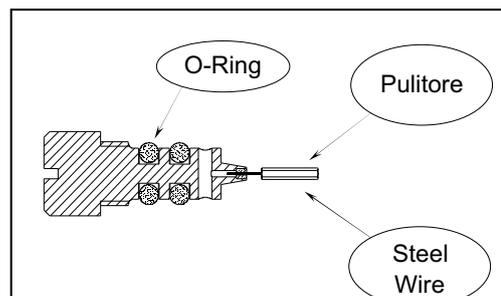

Fig. 14.1.2
Remove the screw (13) Fig. 14.1.1 and clean, as in Fig.14.1.2, with the appropriate cleaner placed on the cover inside the instrument. In the case where the choke is particularly obstructed, the cleaning operation can be integrated by a bath in trichloroethylene and a successive blowing with compressed air. Before reassembling the screw (13) lubricate the O-Ring with a silicone grease.
Remove the screw (13) (see Fig. 14.1.1) and clean, as shown in Fig. 14.1.2, by means of the supplied steel wire situated inside the instrument. If the capillary orifice is obstructed, clean it with a bath in trichloroethylene and a blow of compressed air. Before fastening the screw (13), we recommend lubricating the O-rings by applying a coat of silicone lubricant.